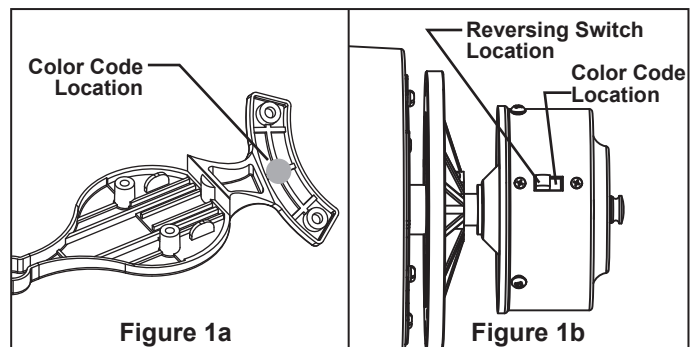

Figure 2:
4. Align holes of tube with holes of motor assembly and install three screws at each motor. Do not over-tighten. (Figure 2)
6. Tighten both screws to secure the blade. (Figure 2)